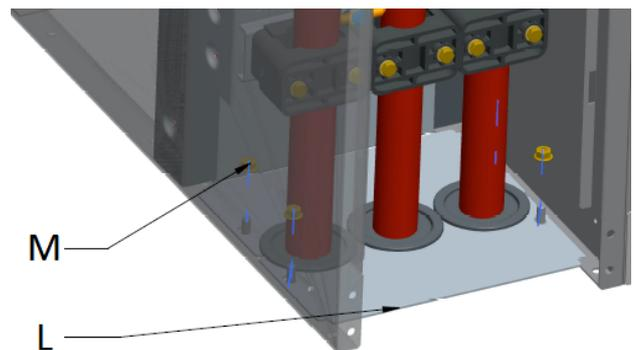

Figure 28: Putting back bottom panels
- Connect the front bottom panel (Figure 28 L) in such a way that the cable grommets are fixed by both bottom panels. Fix both bottom panels using four self-securing hexagonal flange nuts (Figure 28 M).